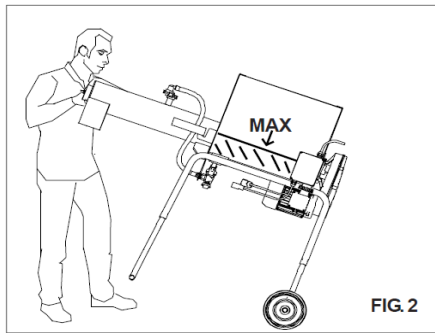
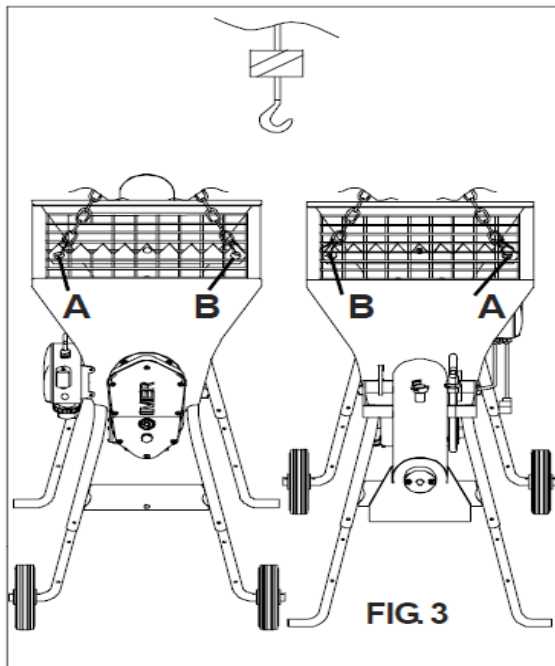

FIG. 2
FIG. 3
7. TRANSPORT (see fig.2 and fig.3)
Lift the mixer by means of the relative handles (fig.2) and push in the required direction.
- CAUTION! Never use points other than as specified in figure 3 to lift the machine
To lift the machine, use the four specific attachment rings (fig.3).